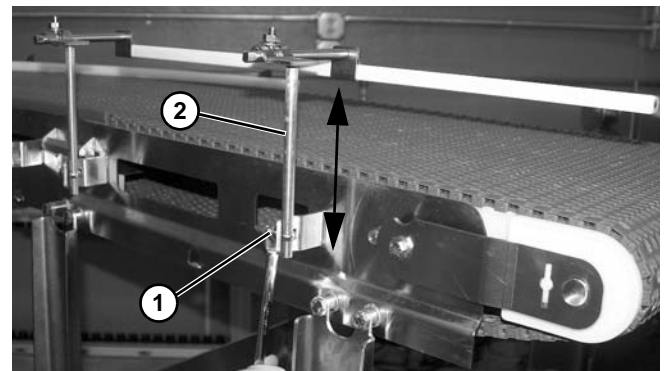

Figure 40
2. Loosen nut (Figure 40, item 1), and adjust the guide post (Figure 40, item 2) height, as needed. Tighten nut.